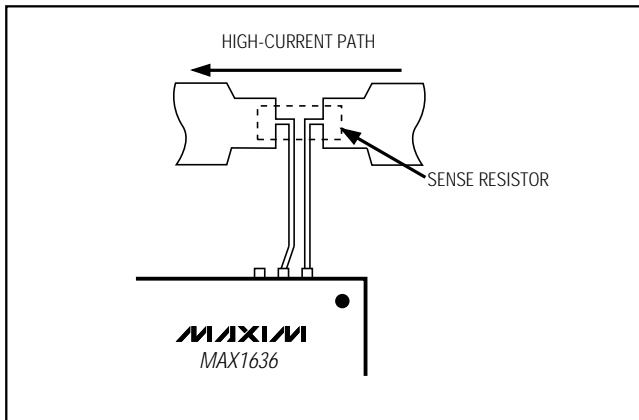

Figure 6. Kelvin Connections for the Current-Sense Resistors
- Minimize current-sense resistor trace lengths and ensure accurate current sensing with Kelvin connections (Figure 6).